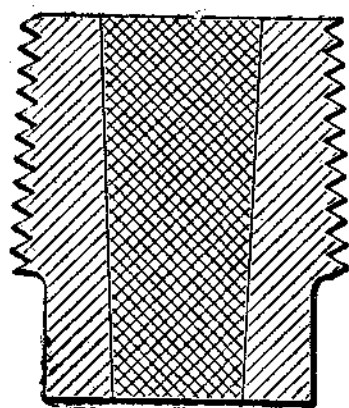

FIG. 15
28. The ordinary fusible plug in common use is shown in section in Fig. 15. It consists of a brass or iron shell threaded on the outside with a standard pipe thread. The plug